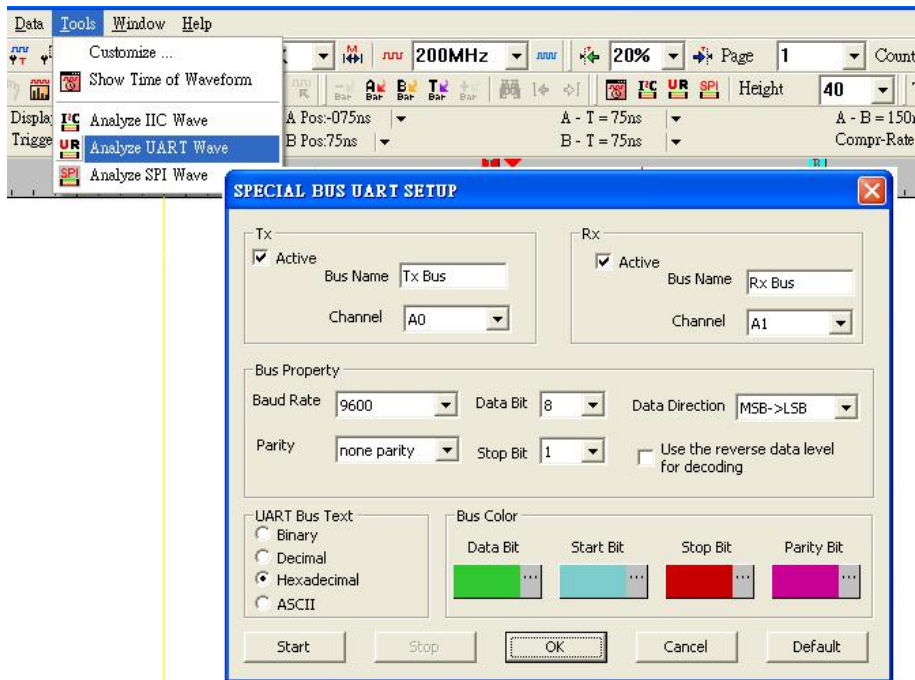

Fig 4-30 – UART Setup
- Step 3.** Click  icon or select the Analyze UART wave on the Tools of the menumenu bar. The dialogue of the special Bus UART setup shown in Fig 4-30 will appear.